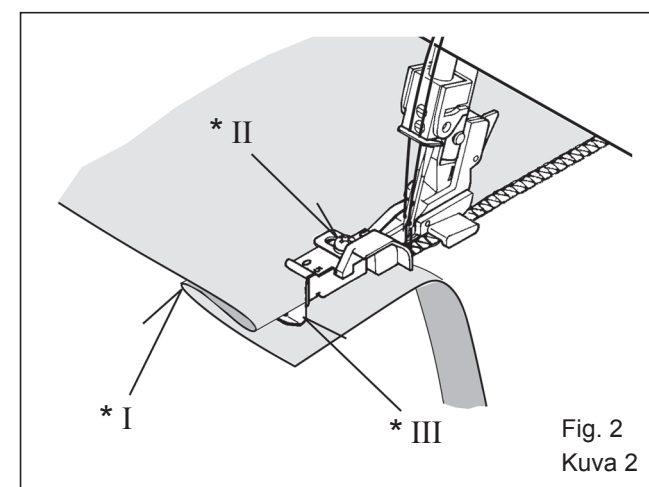
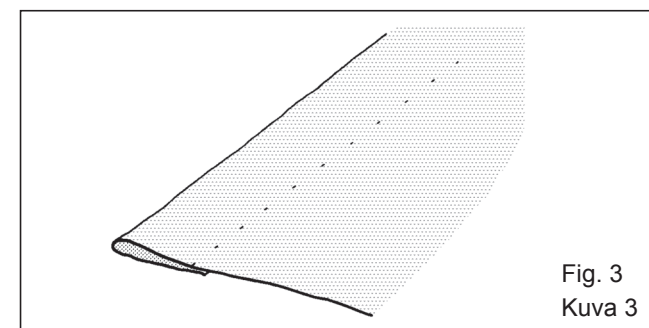

Fig. 2
Fig. 3
2. Place fabric under the presser foot with the 'wrong' side up. Feed the folded edge through the guide in the front of the foot and lower the presser foot lever. Try a stitch (or several stitches) on a spare piece of the actual fabric, and adjust the guide so that the needle just catches the fold. Adjust the guide by means of the small screw on the top of the foot – see Fig. 2.
3. When correctly set, sew the hem. The outside edge will be cut away by the machine – see also Fig. 2. After completion, open out and press again. The stitches should be almost invisible on the 'right' of the fabric – see Fig. 3.